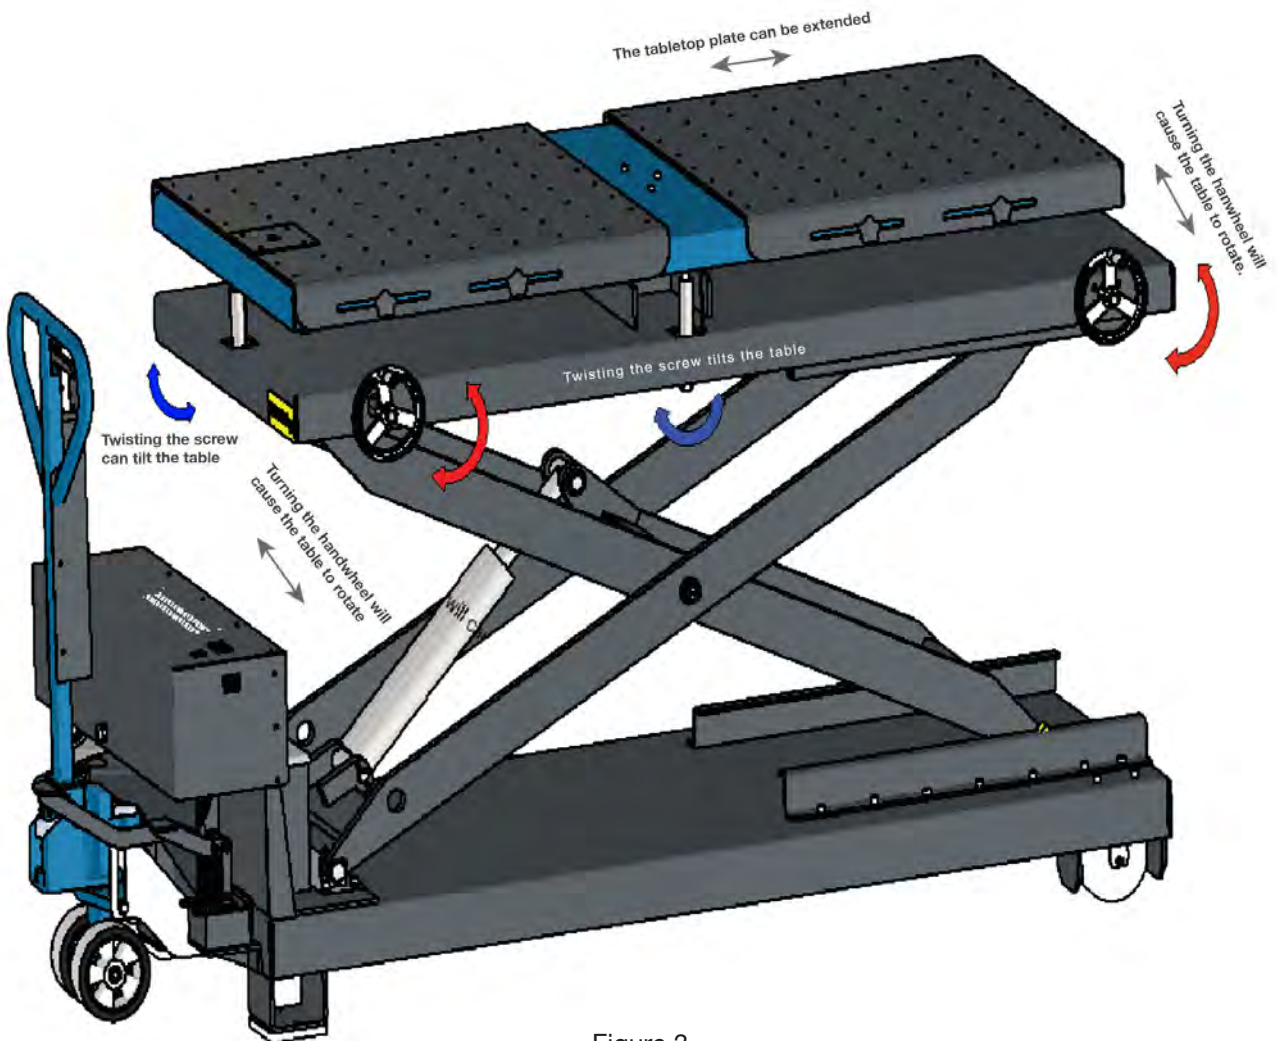

Figure 3
- Handle Facing Jack Mechanism: Adjusts Tabletop pitch forward/back. Turn clockwise to pitch backward, and counterclockwise to pitch forward. (figure 3).
- Two Side Handwheels: Adjusts Lower Table. Turn the handwheel to rotate/swivel the Lower Table left or right. (figure 3).